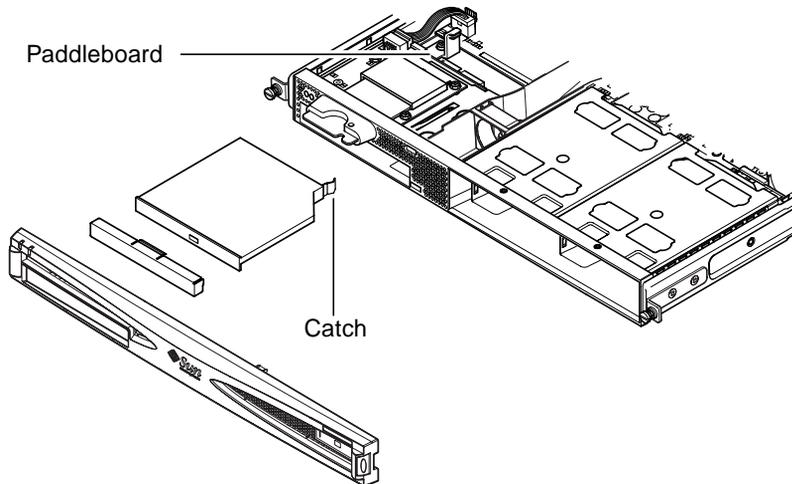

FIGURE 4-5 Installing an Internal DVD or CD-ROM Drive
5. Carefully insert the DVD or CD-ROM drive into the chassis (see FIGURE 4-5).
Make sure that the catch at the rear of the DVD or CD-ROM drive clicks onto the chassis. Guide the drive in so that its connectors align with, and then engage with, the connectors on the paddleboard (see FIGURE 4-5) at the back of the drive's enclosure in the chassis. You may need to hold the paddleboard by the black IDE connector to guide the DVD or CD-ROM drive home.